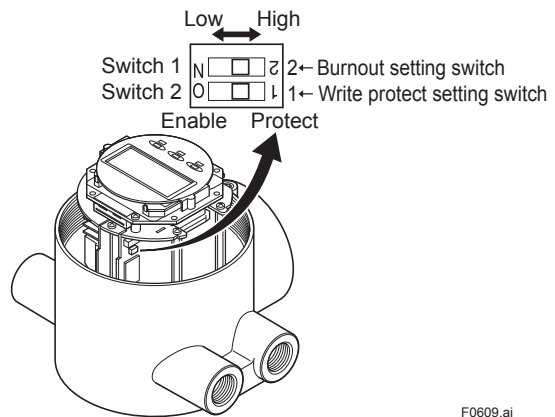

Figure 6.3.2 Switch Configuration for Integral Flowmeter and AXFA14 Remote Converter
By setting the write protect function to "Protect" it is possible to prevent the overwriting of parameters. Write protection can be carried out using either the hardware switch on the CPU board (i.e., Switch 2) (See Figure 6.3.2) or software parameter settings. If either of these items is set to "Protect," the overwriting of parameters will be prohibited.
- (3) Set the switches. There are two switches (See Figure 6.3.2). One is for burnout setting and the other for write protect setting, located adjacent to each other.